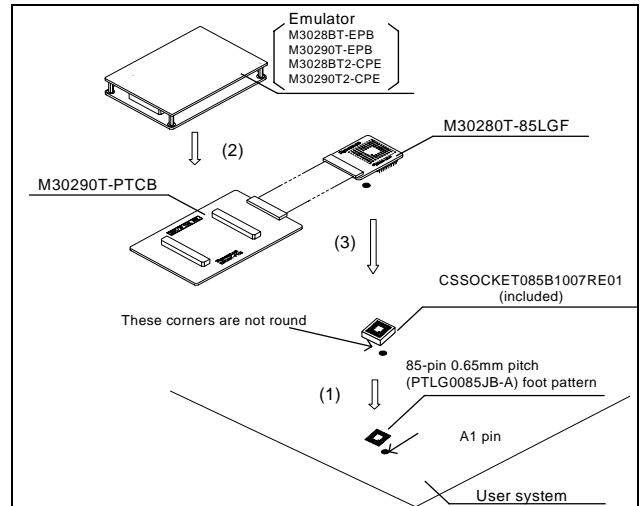

Figure 3 Connection procedure of the M30280T-85LGF
5. Connection Procedure (See Figure 3)